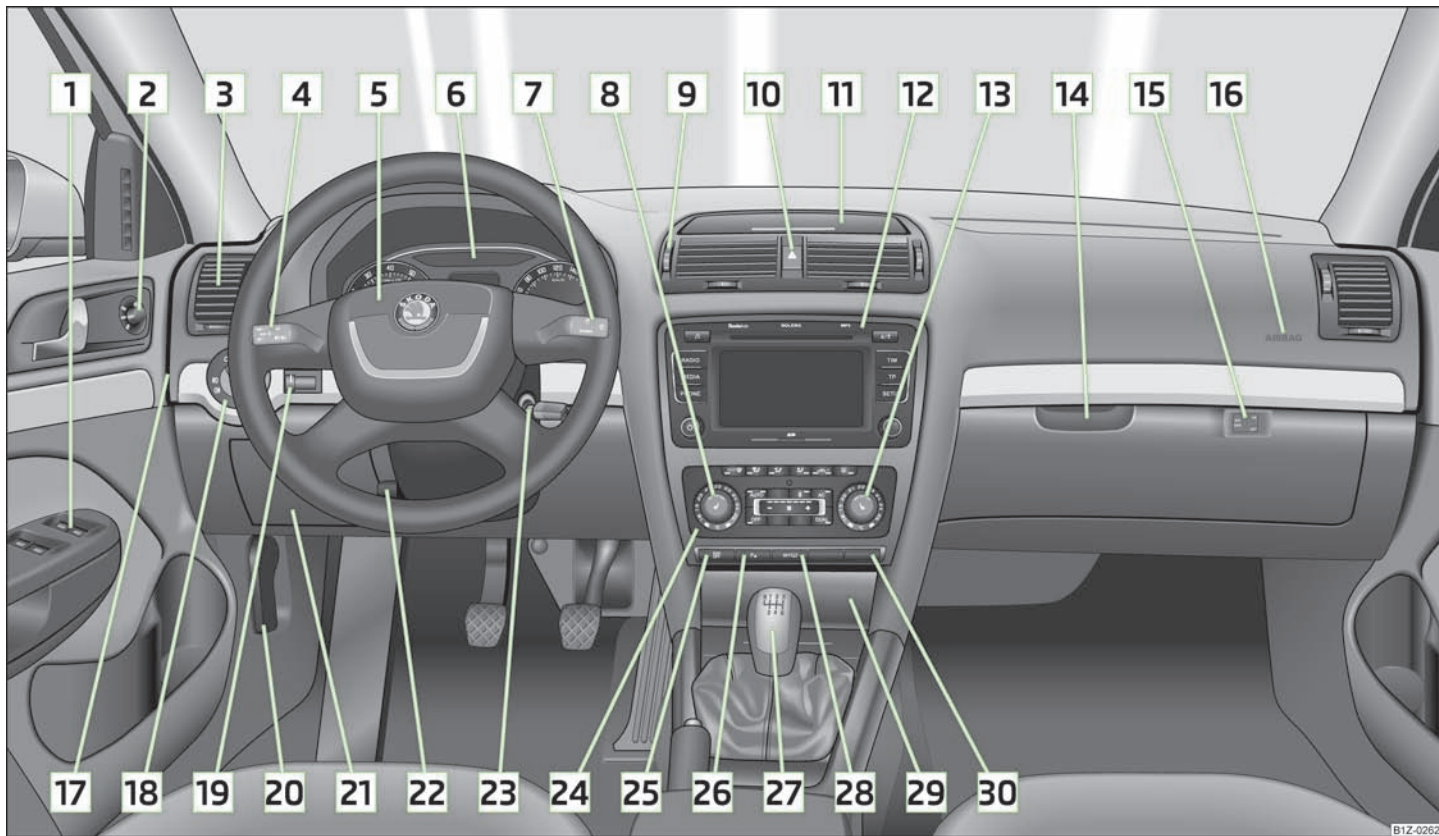

Fig.1 Cockpit
- The arrangement of the controls and switches and the location of some items on right-hand drive models may differ from that shown in » Fig. 1. The symbols on the controls and switches are the same as for left-hand drive models.